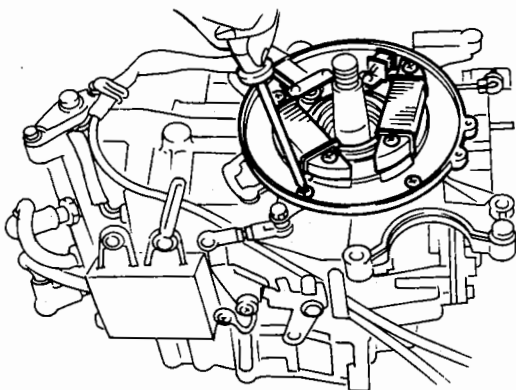

Fig. 28 Removing the coil plate
- 8) Remove the coil plate mounting screws ((+) 508-4) and remove the coil plate. (Fig. 28)